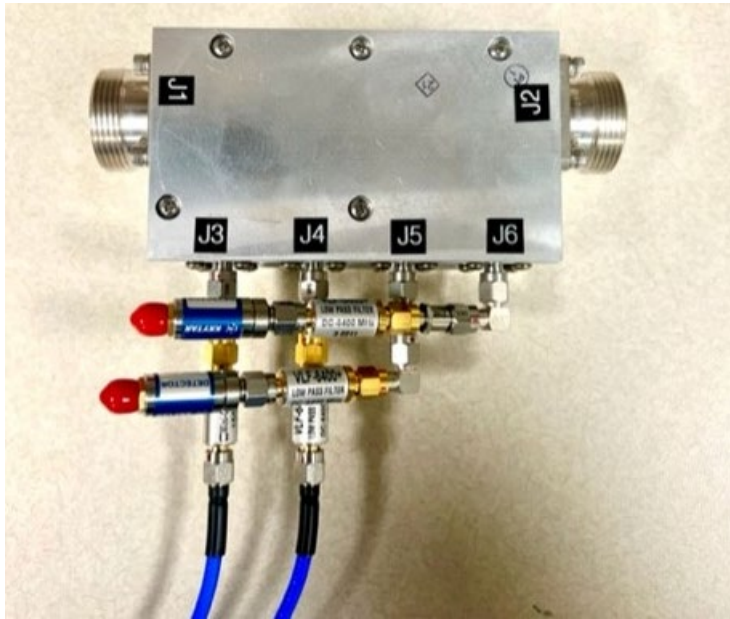

Figure 9
15. Calibrate dual directional coupler with all attenuators, filters, detectors, and cables attached and in their proper location. See Figure 9.